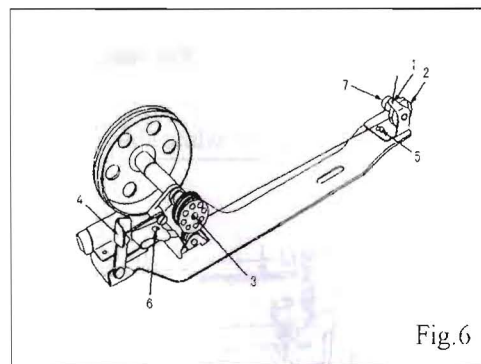

Fig.6
## 5. WINDING (Fig.6)
## 6. WINDING ADJUSTMENT (Fig.6)
2) Adjusting the lift of alternating presser feet. If the height of the lifting presser foot changes, the momentums of the lifting and vibrating presser foot vary, thus the height of the vibrating presser foot must be adjusted. To adjust this, lower the presser bar lifter, holding the vibrating presser foot B (Fig.6) and loosen the hexagon screw 3 and move the presser foot up or down as may be required. After setting the position, tighten the screw.